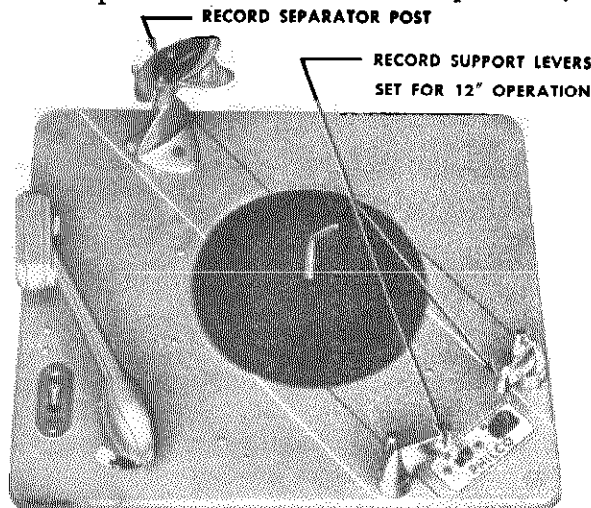

Figure 3. CHANGER SET FOR 12" AUTOMATIC OPERATION
1. Without using a record, place the tone arm on its rest, set both record support levers and the record-separator post to their 12" positions, as shown in figure 3. Set the manual-automatic lever to AUT. Turn the motor ON and operate the REJECT control; the changer should go through its cycle. Watch the tone arm swing out; it should clear the arm rest. At the completion of the cycle, the point of the needle should clear the changer base plate by $\frac{3}{32}$ ".